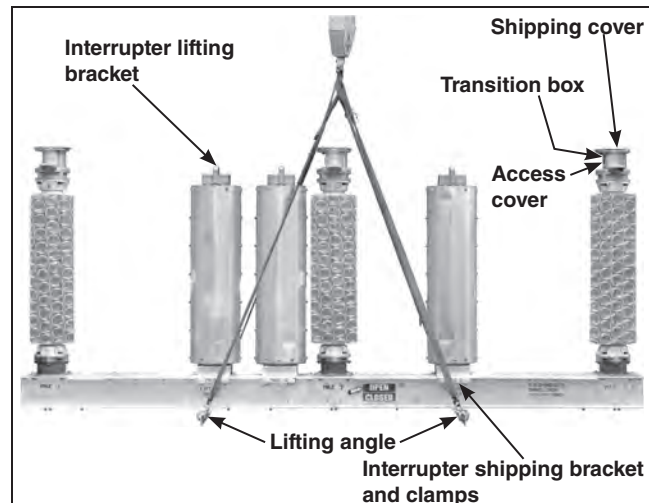

Figure 5. Hoist the high-speed base using a crane, 69-kV through 138-kV circuit-switchers.
STEP 3. *For circuit-switchers rated 69 kV through 138 kV:* Attach the lifting angles to the circuit-switcher base using $\frac{1}{2}$ -13 x $1\frac{1}{4}$ hex-head galvanized steel cap screws, flat washers, and nuts furnished. See Figure 5. Securely tighten the cap screws, and then attach four suitable lifting slings to the lifting angles. Unbolt the base from the shipping skids and lift the base—with interrupters and insulating support columns attached—on top of the mounting pedestals as shown on the catalog drawing. Avoid sudden starts and stops. Verify that the SWITCH-POSITION indicator on the base is visible on the desired side. (This is also the side on which the operator door will open.) See Figure 5.
STEP 7. *For circuit-switchers rated 69 kV through 138 kV:* Remove and discard the lifting angles, but retain the associated $\frac{1}{2}$ -13 \times 1 $\frac{1}{4}$ galvanized steel cap screws, flat washers, and nuts. See Figure 5 on page 12.